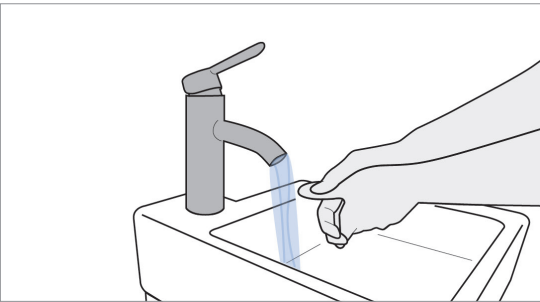

Figure 45 Hand Washing
1. Wash hands and put on gloves (see Figure 45).